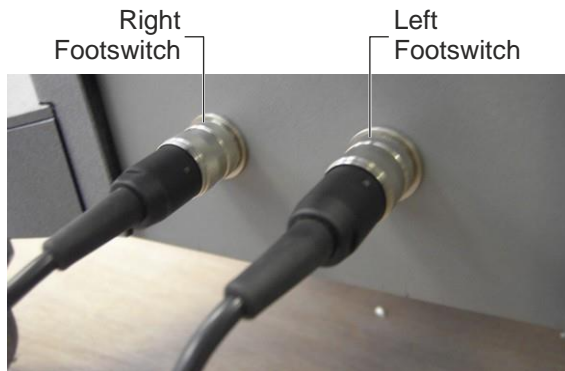

Figure 3-30. Right and left Footswitch Cables Connected
The right Footswitch must be connected to the footswitch connection receptacle that is located on the left side of the system's rear side, as shown in Figure 3-30.
4. Verify that the footswitch is properly connected to the system, as shown in Figure 3-30.